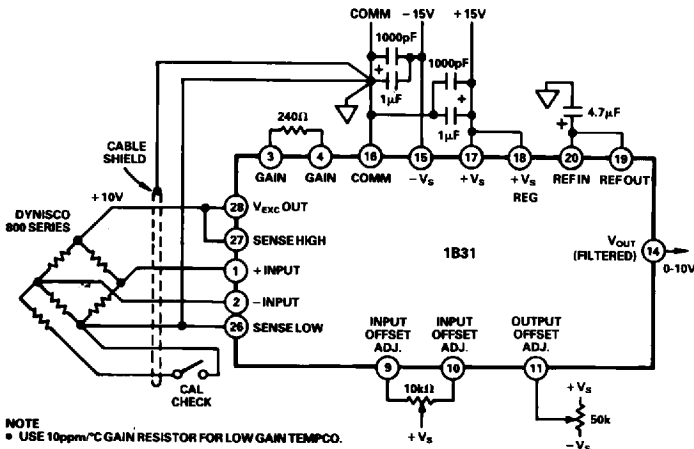

Figure 16. Pressure Transducer Application
**Pressure Transducer Interface:** A strain gage type pressure transducer (Dynisco 800 series) is interfaced to a 1B31 in Figure 16. Regulated excitation of  $+10\text{V}$  dc is provided for a  $30\text{mV}$  full-scale output. The gain is set at 333.3 to achieve a 0-10V output for a 0-10,000 psi range of the transducer. A shunt calibration resistor is built into the transducer for easy verification of the 80%-point of its full-scale output. A typical shielding scheme to preserve the excellent performance characteristics of the 1B31 is also shown. To avoid ground loops, signal return or cable shield should be grounded only at one point.